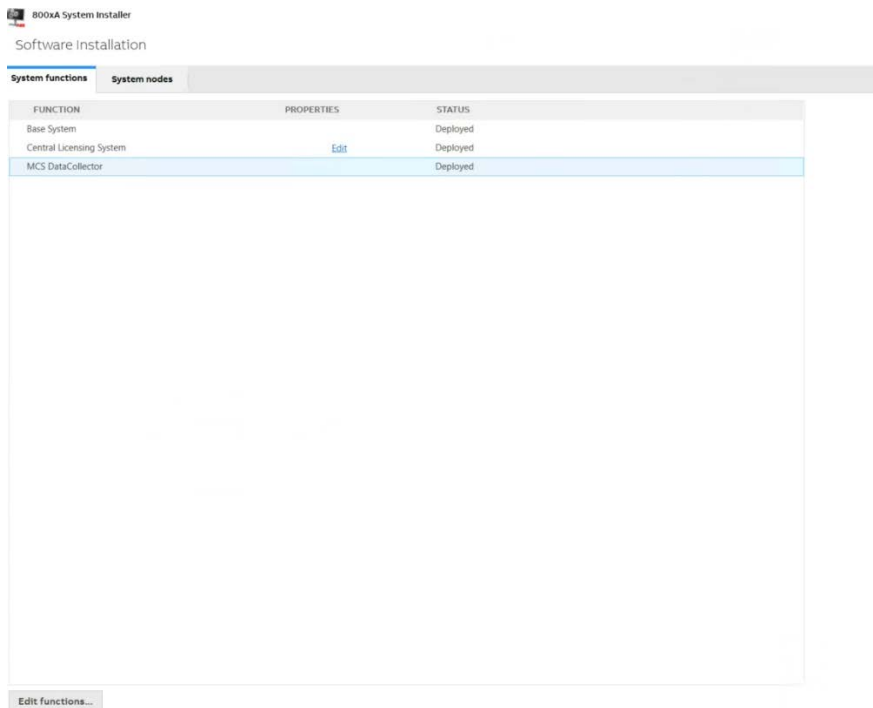

Figure 3.7: System functions list
2. As shown in **Figure 3.7** as soon as it is added to the list of system functions, the **MCS Data Collector** will appear as deployed even before it is deployed. Ignore this status and proceed to the next step.